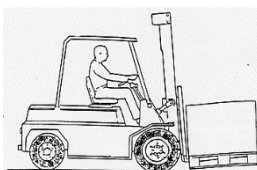

fig. 6
11. Check all around before releasing parking brake and moving off. (See fig. 6)